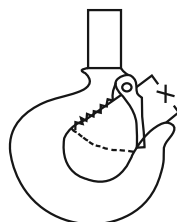

Figure 3 - Hook Replacement
- b. Check hooks for deformities, cracks, or chemical damage. If the throat openings are spread wider than the maximum permissible 15% increase listed in Figure 3., the hooks have been overstressed and must be replaced. Any hooks that is bent or twisted more than 10 degrees from the plane of an unbent hook must also be replaced.